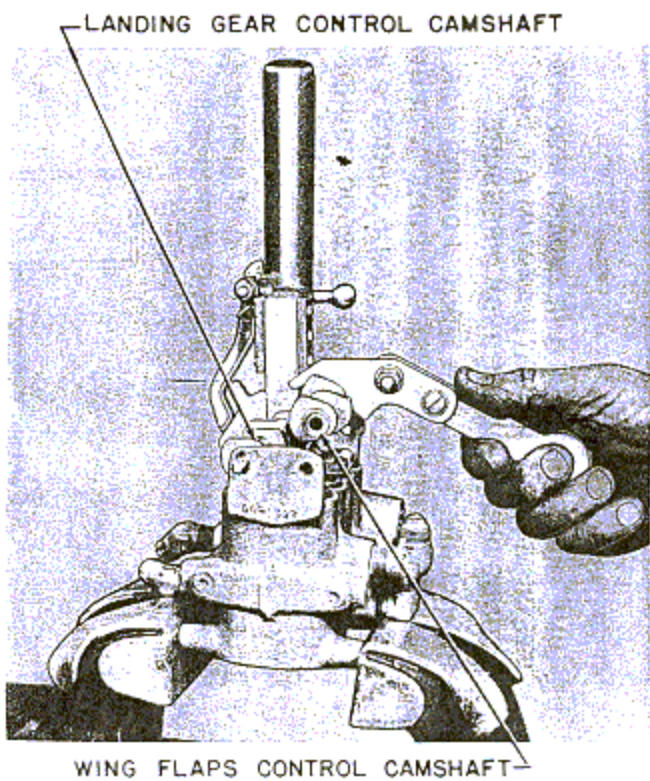

Figure 229—Removing Control Camshaft
3. Pull the bolts and the segment completely out of the camshafts and lift the camshafts from the valve body. (See figure 229.)